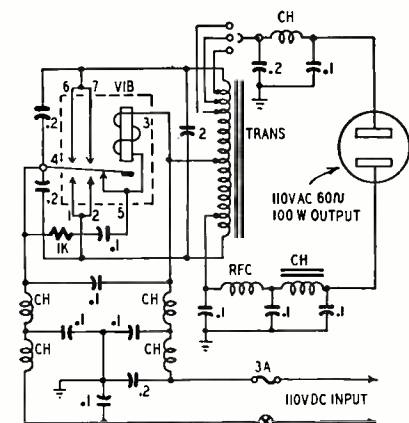

Fig. 6—Schematic for converter; input is 110 v.d.c.; output, 110 v.a.c. 60 cycles.
application for powering a.c. radio receivers, transmitters, television sets, etc. A commercial converter schematic (Radiant Vipower model 110R10) is shown in Fig. 6. A tapped autotrans-
D.c. restorers. A crystal d.c. restorer is shown in Fig. 6. It detects or rectifies the sync pulse tips and develops a positive voltage. This counteracts the bias voltage set by the brightness control and maintains a picture brightness corresponding to the light level in the studio. However, if the video signal varies or the contrast control is changed, the level of the sync tips changes, which calls for a readjustment of the brightness control. The dependence of these two controls upon each other can be eliminated if the diode is adapted to detect at the base of the sync pulses instead of the sync tips. The level of the sync pulses sets the point where the electron beam